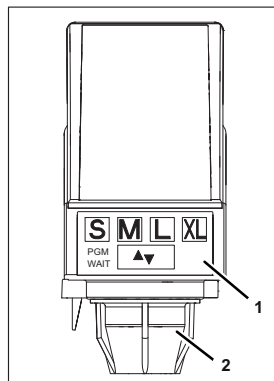

Fig. 1
- Fig. 1/1 Control panel
- Fig. 1/2 Dispensing nozzle